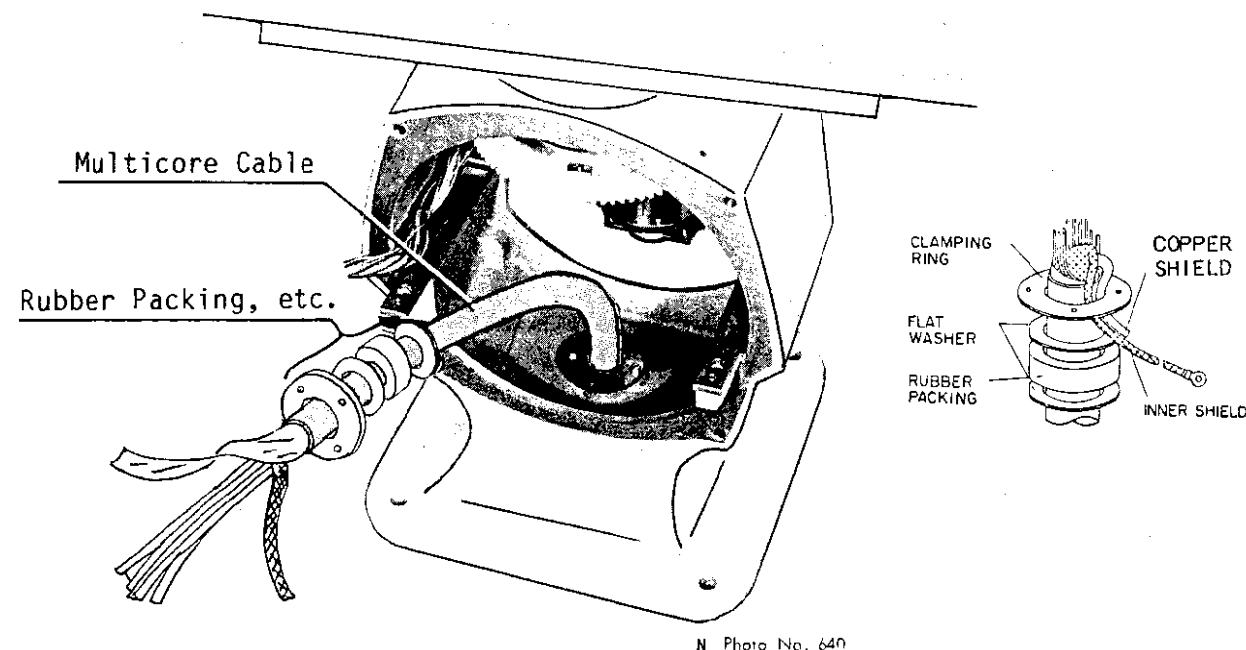

Fig.1-7
- 3) Remove the cable gland located on the bottom in the scanner housing as shown in Fig.1-7.
- 4) Pass the multicore cable through the scanner base and the cable gland just removed. Refer to Fig.1-7.
- 6) Tighten the cable gland to the scanner base. Ground the copper shield of the multicore cable with the clamping ring as shown in Fig.1-7.
2. Slide washer, rubber packing, washer and clamping ring of the cable gland over the cable as shown in Fig.1-7.